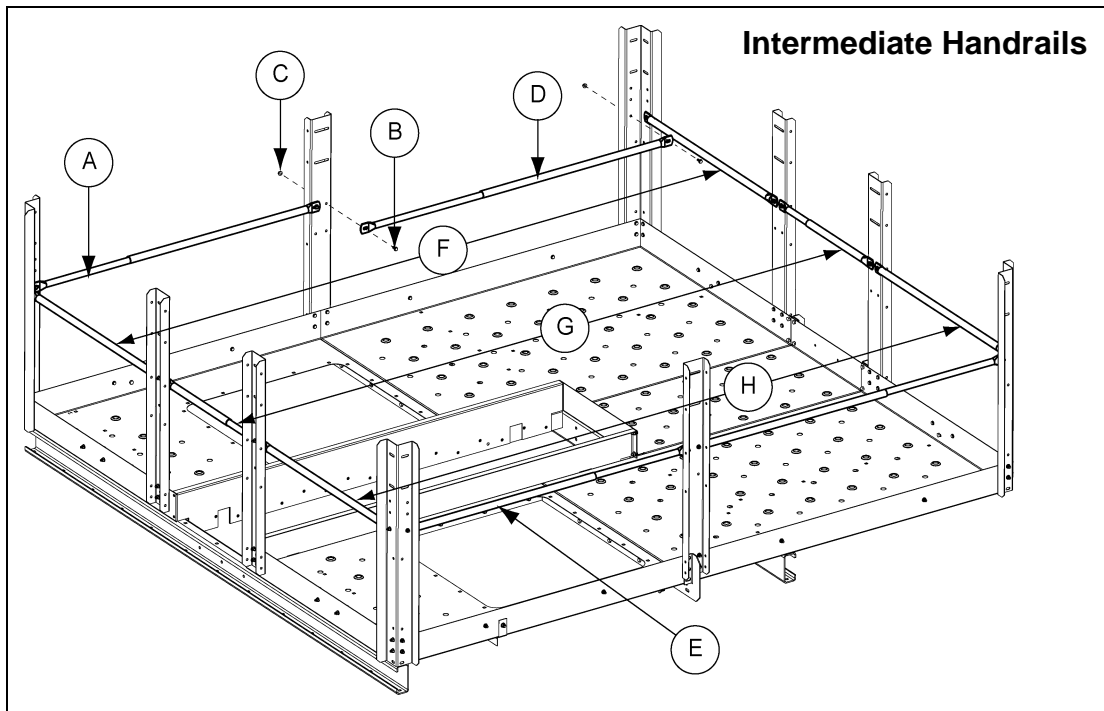

Figure 8R Intermediate Handrails
**NOTE:** The small intermediate handrail (LDR-4088) fits inside of the large intermediate handrail. It is critical that large and small rails be properly identified in advance. Rails are cut to size and cutting the wrong rail or to the wrong length will prevent proper installation. (See Figure 8R.)
- b. Insert one small rail inside of one large rail and telescope the joined rails from the "W" corner post to the platform post as shown in Figure 8R on Page 65.
- b. Insert one small rail inside of one large rail telescope the joined rails from the "W" corner posts to platform posts as shown in Figure 8R on Page 65.